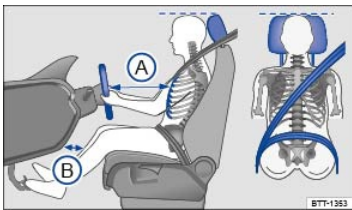

Fig. 22 Proper safety belt positioning and head restraint adjustment. The driver should never sit closer than 10 inches (25 cm) from the steering wheel.
- Adjust head restraints so that the upper edge of the head restraint is at least at eye level or higher. Position the back of your head as close as possible to the head restraint ⇒ *Fig. 22* (dotted line).
- Adjust the steering wheel so that there are at least 10 inches (25 cm) between the steering wheel and your breast bone ⇒ *Fig. 22(A)*, ⇒ *Steering wheel*. When adjusting the proper distance to the steering wheel, grasp the top of the steering wheel with your elbows slightly bent.
- Adjust the driver's seat so that you can easily push the pedals all the way to the floor while keeping your knee(s) slightly bent. The distance to the instrument panel in the knee area must be at least 4 inches (10 cm) ⇒ *Fig. 22(B)*.